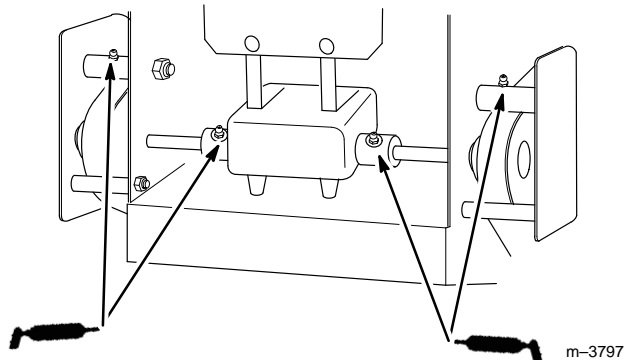

Figure 36
2. Lubricate the transmission couplers and idler arm pivots (Fig. 36).